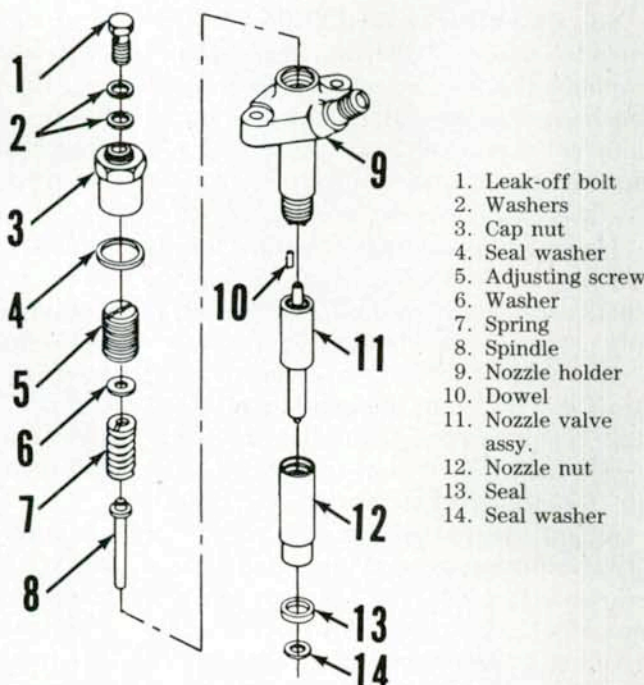

Fig. 122—Exploded view of fuel injector assembly.
If opening pressure is not within specified range, remove nozzle cap nut and turn adjusting screw as required to obtain specified opening pressure. See Fig. 122. If opening pressure cannot be properly adjusted, overhaul nozzle as outlined in paragraph 84.
**84. OVERHAUL INJECTORS.** Secure the injector nozzle in a holding fixture, then remove cap nut (3—Fig. 122) and adjusting screw (5). Withdraw washer (6), spring (7) and spindle (8). Remove nozzle retaining nut (12) using nozzle nut socket (tool No. 8126) or equivalent, and remove nozzle valve (11) from holder (9).